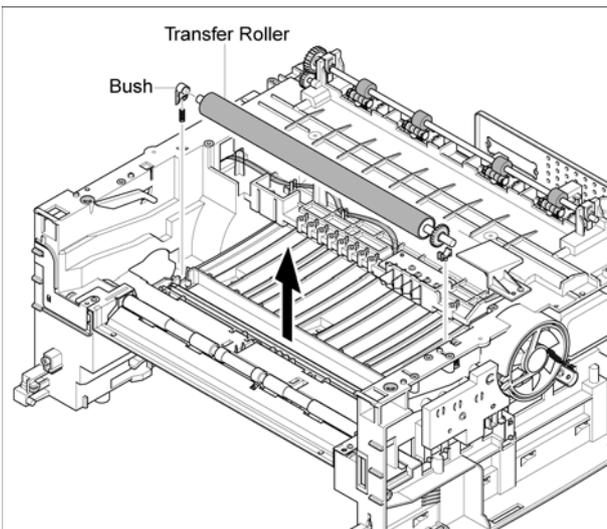

Figure 3
4. Unlatch the bush, then remove the bush. Remove the Transfer Roller in the direction of the arrow, Figure 3.